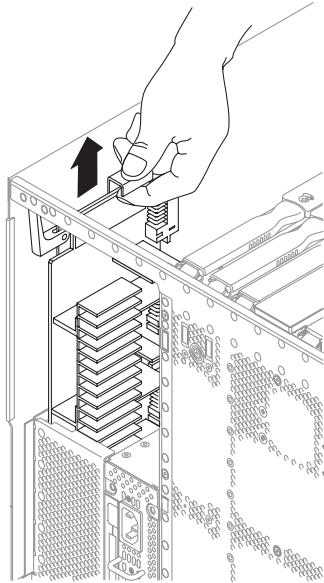

FIGURE 8-6 Removing the Power Distribution Board
The power distribution board is located in the system. It is accessible from the rear of the system after your remove the IB_SSC assembly (FIGURE 8-6).
11. **Remove the board from the system using the metal handle (FIGURE 8-6). Place the board on an ESD mat.**